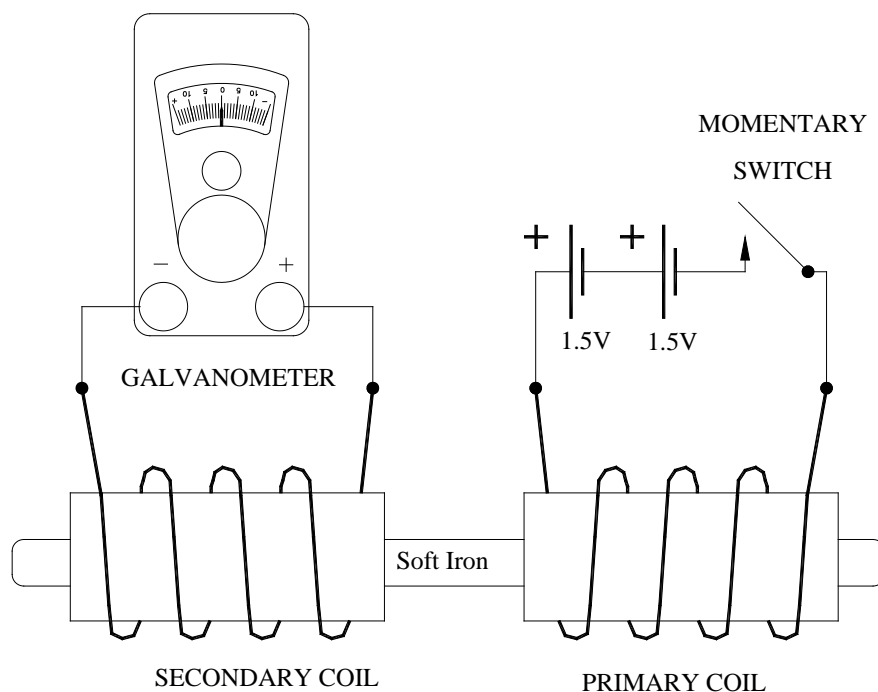

Figure 7 Schematic of the circuit used to investigate currents induced by a changing current.
13) Assemble the circuit shown in Figure 7. Use the 20-turn coil for the secondary and the many-turn coil for the primary. Look at the direction of the windings in your coils; assemble your circuit exactly as shown in Figure 7. DO NOT CLOSE THE SWITCH YET! The primary coil is the coil connected to the switch and the battery. The secondary coil is the one connected to the galvanometer. By opening and closing the switch, you will create a changing current in the primary coil. This change in current produces a changing applied magnetic field. The changing applied field induces a current in the secondary coil. The direction of the magnetic field from the induced current should be observed to oppose the CHANGE in direction of the applied field. Make sure the soft iron core runs through the centers of each coil.